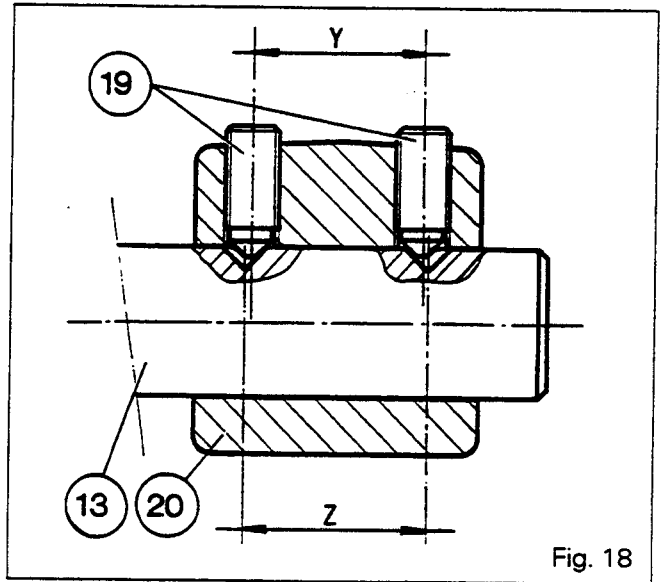

Fig. 18
Principle: The fork (20) is positioned by means of the difference in the spacing between the tapped holes **Y** and the spacing **Z** of the spot-facing marks in the piston (13). The fork can be adjusted to move to different positions by acting on either the front or rear screw, depending on the adjustment required (Fig. 18). Set the control piston (13) and synchromesh (31) to the high range (Hare).